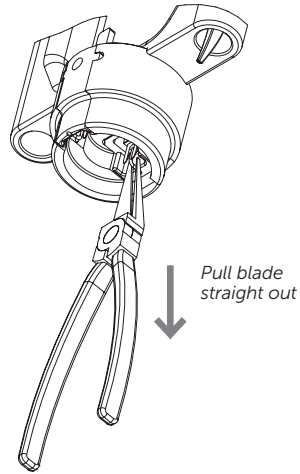

Figure 5.
3. Using a small needle nose pliers or similar, grasp each blade and pull it straight out (see Figure 5). Safely discard the old blades.